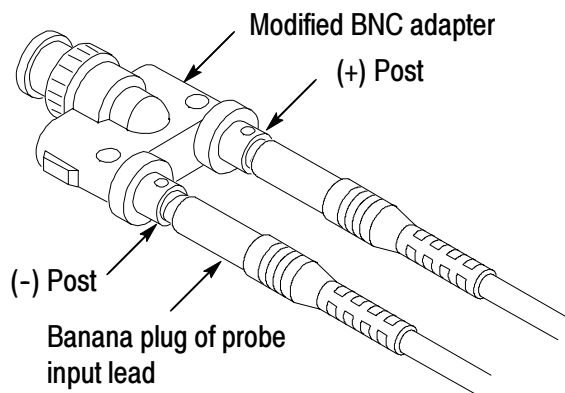

Figure 13: Slide probe leads onto the binding posts
6. Attach the differential probe input leads (without attachment accessories) by sliding the banana plug of the leads onto the binding posts metal sleeves on the Modified BNC adapter (see Figure 13).
2. Attach the differential probe input leads (without attachment accessories) by sliding the banana plug of the leads onto the binding posts metal sleeves on the Modified BNC adapter (see Figure 13 on page 30).